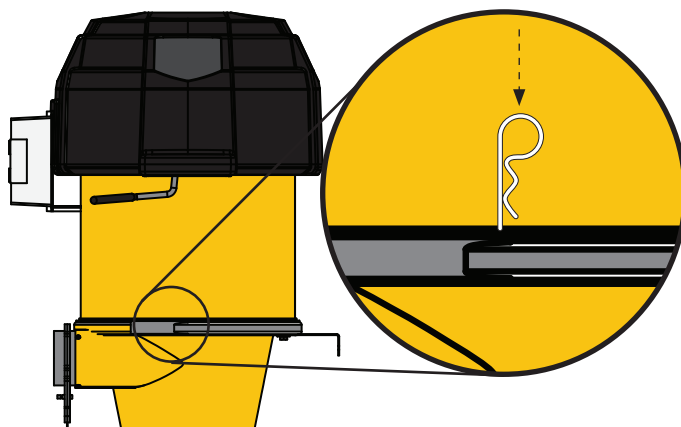

FIG. 21
Carefully lift the Motor Assembly (A) up and over the Filter (C) and down onto the Cyclone's (E) upper flange. Align the Motor Assembly so its perimeter is flush with the Cyclone's (E) flange below it [FIG. 21].